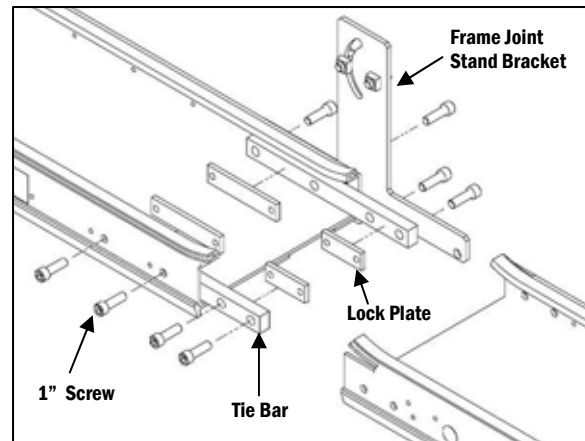

Figure 1
c. Slide the adjoining Frame into position, so the side of the frame is between the Frame Joint Stand Bracket and Tie Bar. Locate the Lock Plate to the inside of the Tie Bar, and insert a 5/16-18 x 1" long Socket Head Screw through the second hole from the end of the bracket until it engages in the Lock Plate (**Figure 1**).